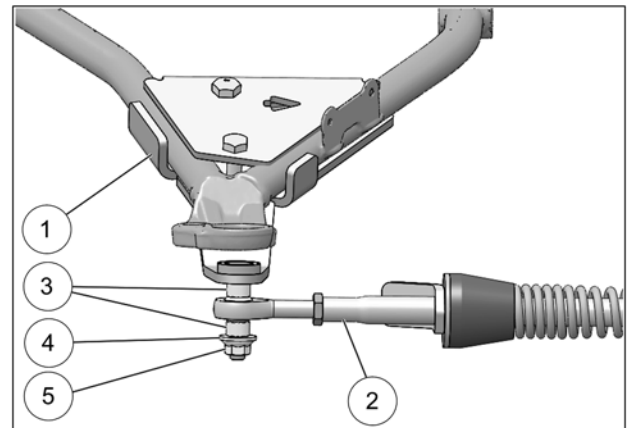

Fig. 19
- Attach the stabilizing rod (2) to the anchor bracket (1), using spacers (3), washer (4), and nut (5). Torque to 70 Nm [52 lb•ft]. Refer to Fig. 19